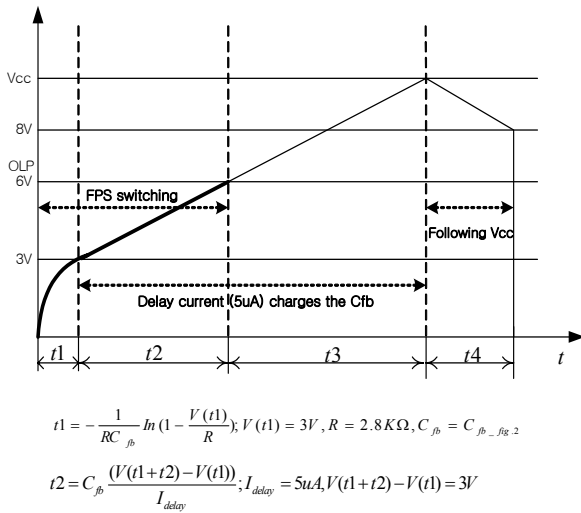

Figure 6. Over load protection
**4.1 Over Load Protection (OLP) :** Overload is defined as the load current exceeding a pre-set level due to an unexpected event. In this situation, the protection circuit should be activated in order to protect the SMPS. However, even when the SMPS is in the normal operation, the over load protection circuit can be activated during the load transition. In order to avoid this undesired operation, the over load protection circuit is designed to be activated after a specified time to determine whether it is a transient situation or an overload situation. In conjunction with the  $I_{pk}$  current limit pin (if used) the current mode feedback path would limit the current in the Sense FET when the maximum PWM duty cycle is attained. If the output consumes more than this maximum power, the output voltage ( $V_o$ ) decreases below the set voltage. This reduces the current through the opto-coupler LED, which also reduces the opto-coupler transistor current, thus increasing the feedback voltage ( $V_{fb}$ ). If  $V_{fb}$  exceeds 3V, the feedback input diode is blocked and the 5uA Idelay current source starts to charge  $C_{fb}$  slowly up to  $V_{cc}$ . In this condition,  $V_{fb}$  continues increasing until it reaches 6V, when the switching operation is terminated as shown in figure 6. The delay time for shutdown is the time required to charge  $C_{fb}$  from 3V to 6V with 5uA.